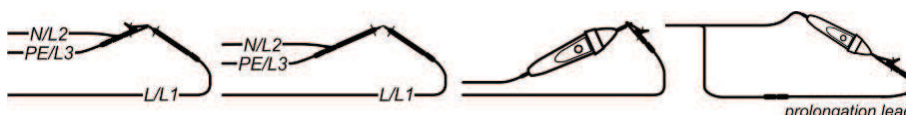

Figure 5.13: Shorted test cables
- ❑ Connect the test cables to the installation tester and short-circuit the test cables (see figure 5.13.)